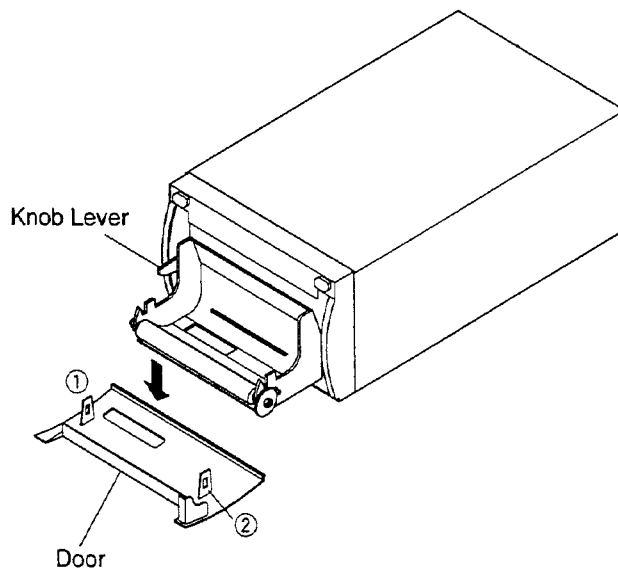

Fig. 2
1. Raise the Knob Lever shown in Fig. 2 to "OPEN" position and open the door.
2. Release two hooks (① and ②) on the door shown in Fig. 2 and remove the door in the direction of the arrow.